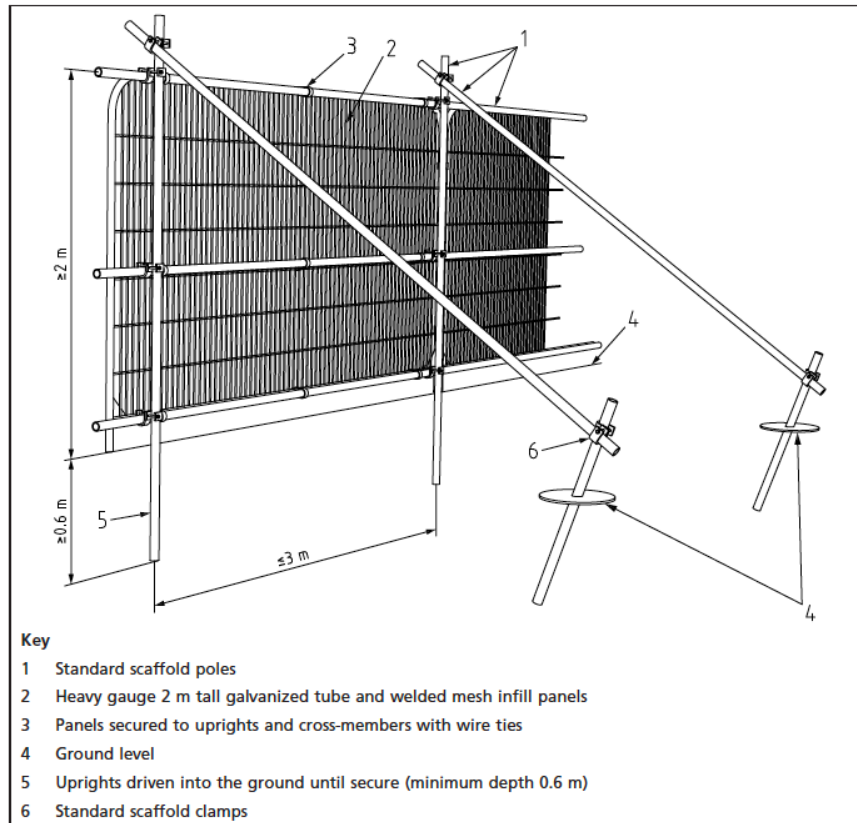

Figure 1 – Conventional tree protection barrier specification (source - BS 5837:2012 Section 6)
- iv) The default heavy-duty tree protection barrier specification is a vertical and horizontal scaffold framework, braced to resist impacts, as per *Figure 1*. The vertical tubes are spaced at a maximum interval of 3 metres and these are driven securely into the ground. Welded mesh panels are securely attached to the frame. During installation, it is important to consider the position of below ground services and structural roots, which must not be damaged. Where these constraints prevent the use of this specification, an alternative specification is given below.